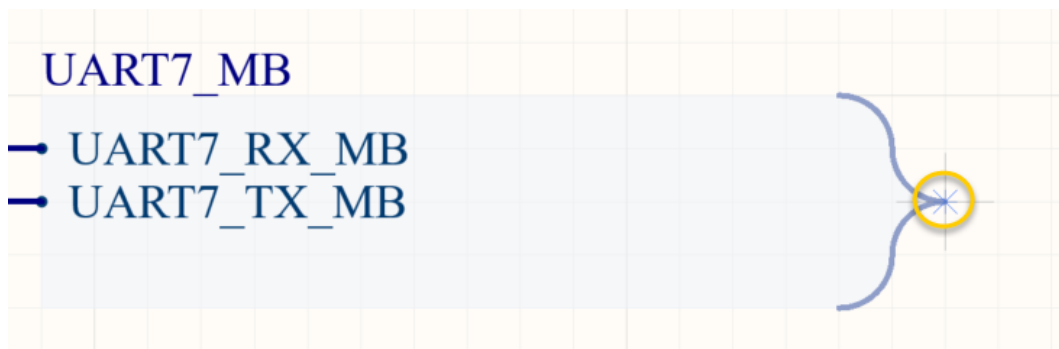

Figure 9. Place Signal Harness on Harness Connector
- Left-click on the electrical hotspot of the Harness Connector to anchor the Signal Harness, as shown in Figure 9.